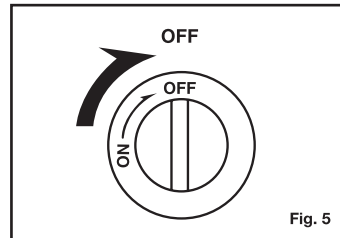

Fig. 5
- After use, turn the ignition knob back to "OFF" position and make sure the burner is put out. (Fig. 5)